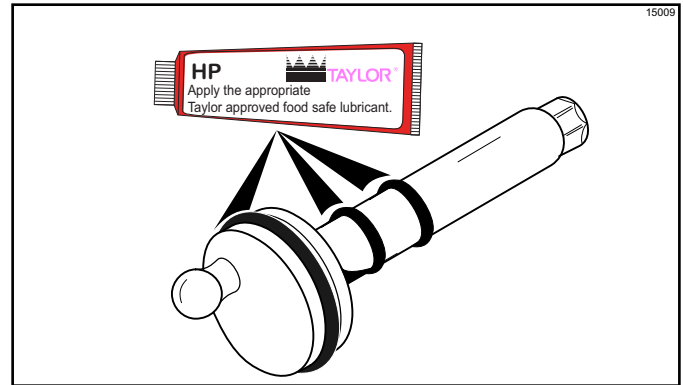

Figure 6-36
13. Slide the large black O-ring and the two smaller black O-rings into the grooves on the driveshaft. Thoroughly lubricate the O-rings and shaft. **Do not** lubricate the hex end of the shaft. (See Figure 6-36.)